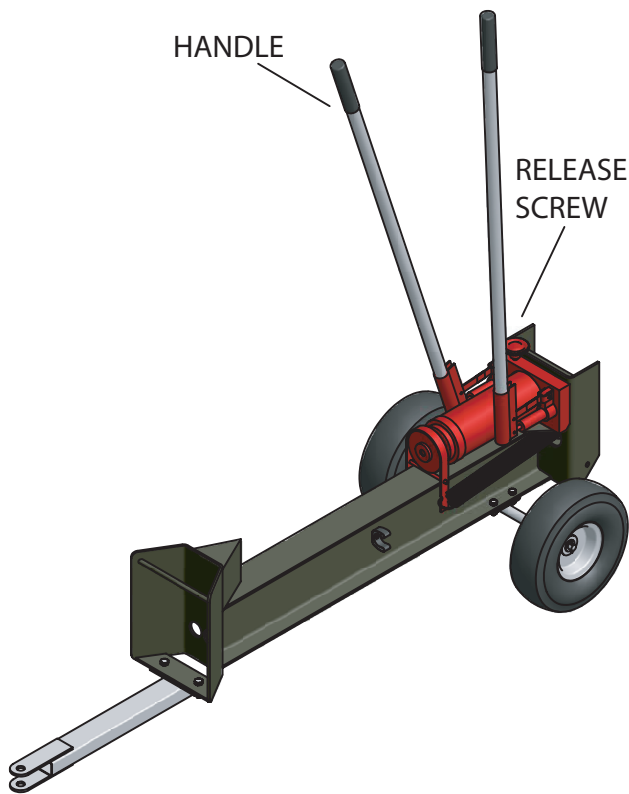

Figure 3
5. It is recommended you operate the Log Splitter in the following manner. Stand behind the log splitter and grip one Handle in each hand and pump the Handles in a back-and-forth motion with one Handle fully forward and one fully rearward as shown in figure 3.